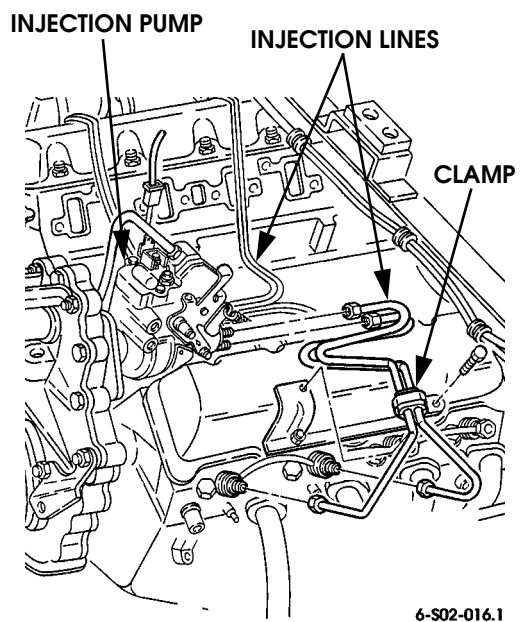

Figure 2-97: Fuel Injection Line Removal (Non-Turbo Shown)
1. Disconnect lines at injector nozzles (Figure 2-97).